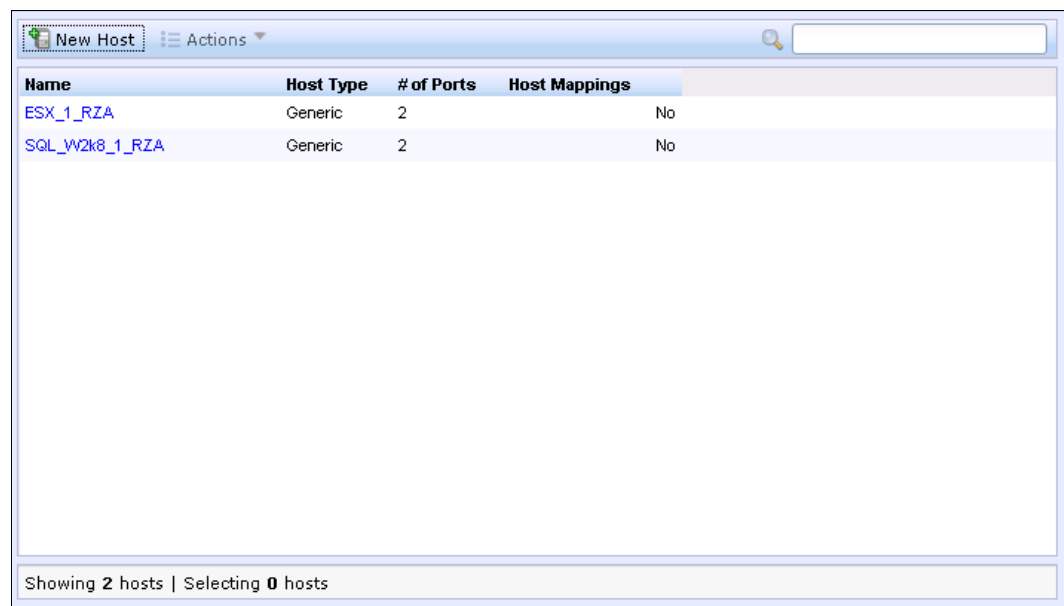

Figure 4-25 All Hosts: After a second host is created
8. Repeat these steps for all of your FC hosts. Figure 4-25 shows the All Hosts window after a second host is created.